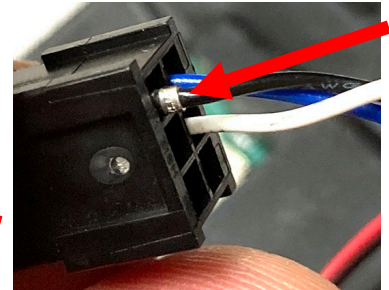

Figure 6.1
- Ensure that there are no pins pushed (see Figure 6.1). If so, gently push pins into connector and gently tug on them to ensure they are locked into the connector.